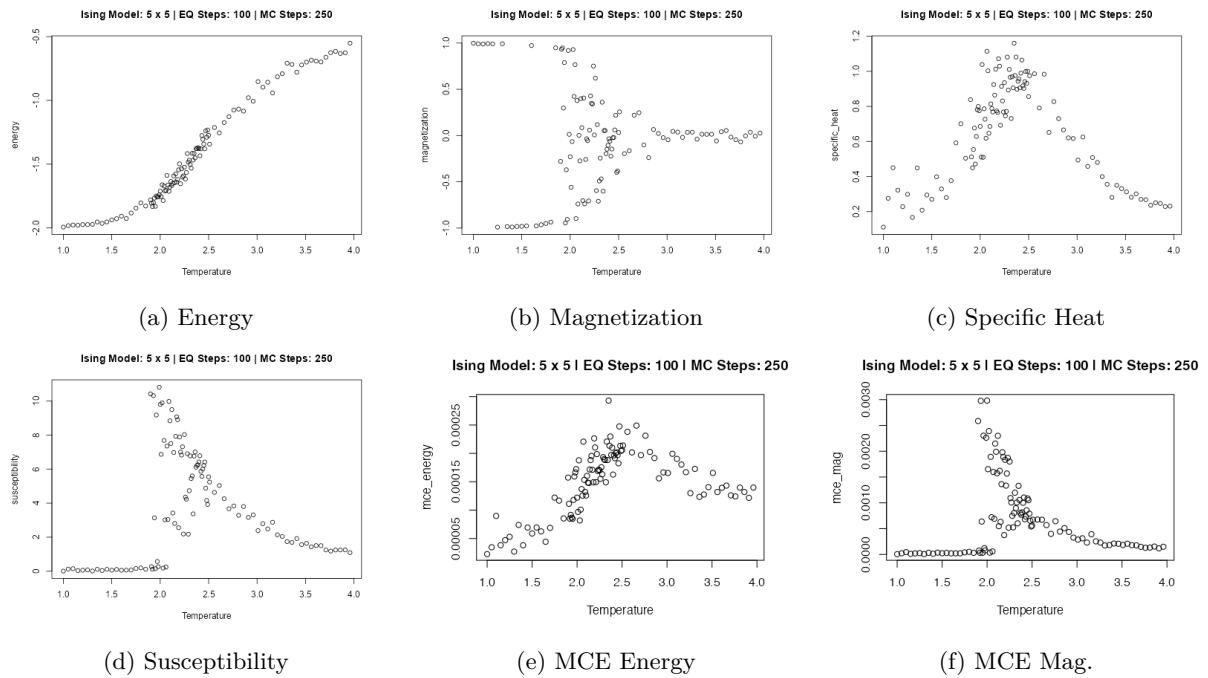

Figure 2: Results of a sample MCMC simulation study
We conducted simulations on a 5×5 grid (total of 25 nodes) with temperatures between 1 and 4. For each MCMC simulation we use 100 equilibrium steps (the burnin) and 250 MCMC steps. All simulations were run on the same seed (666), resetting the seed in between each simulation to ensure they start on the same lattice. The resulting distribution of material properties in relation to temperature are shown in Figure 2.